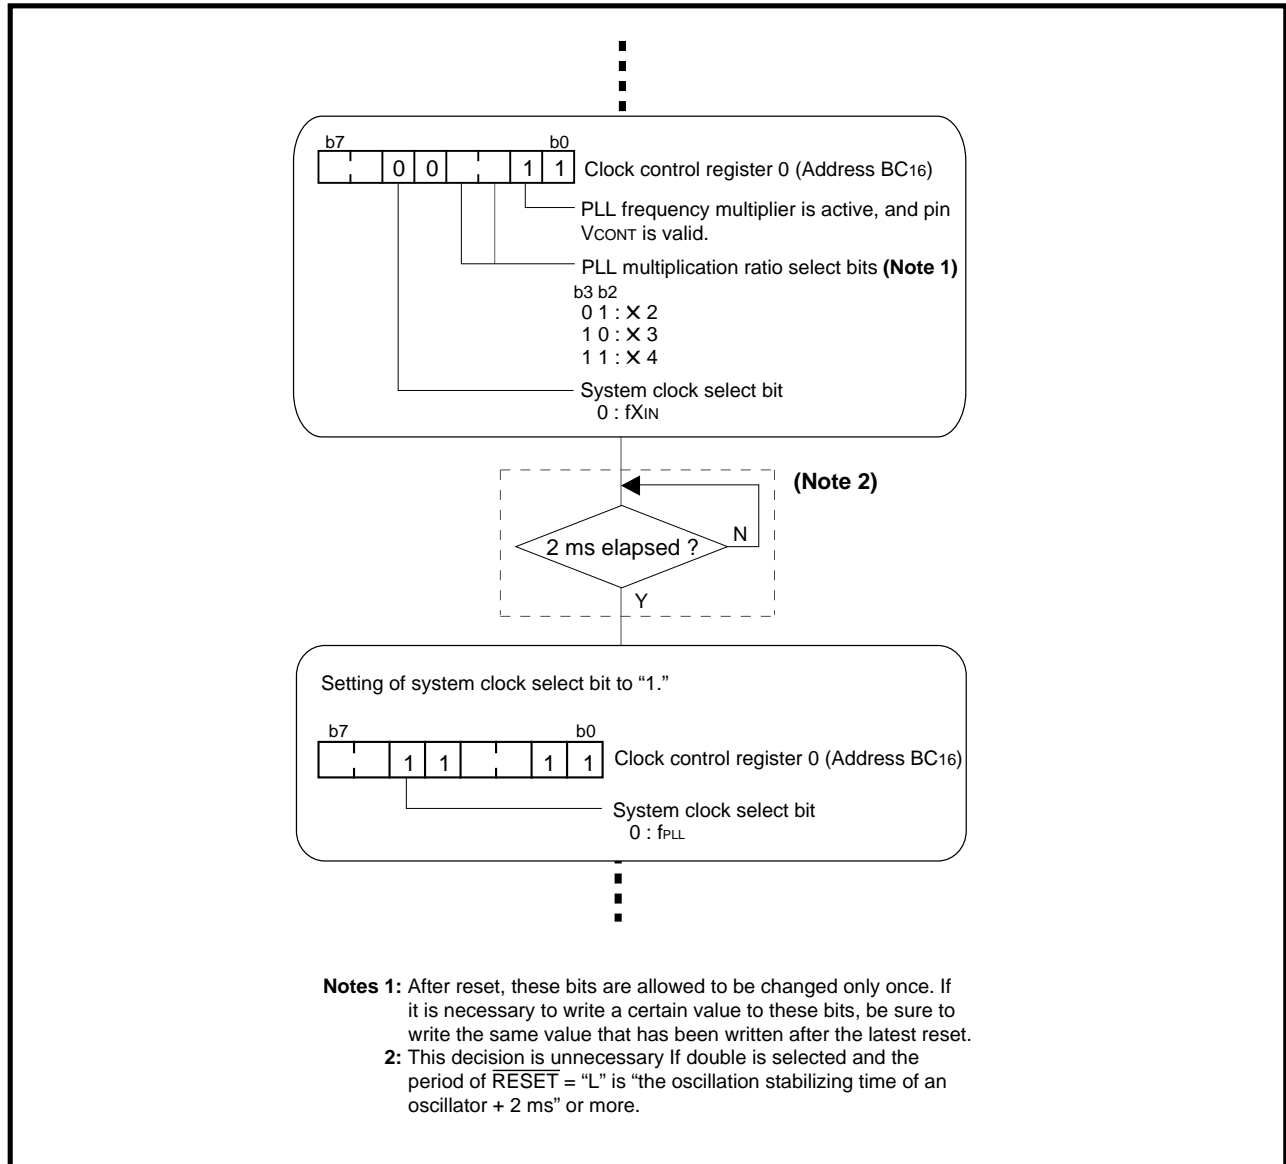

Fig. 4.2.3 Setting procedure for clock control register 0 when using PLL frequency multiplier
Figure 4.2.2 shows the structure of the clock control register 0, and Figure 4.2.3 shows the setting procedure for the clock control register 0 when using the PLL frequency multiplier.
These bits select the multiplication ratio of the PLL frequency multiplier. (See Table 4.2.1.) To rewrite these bits, clear the system clock select bit (bit 5) to "0" simultaneously. Then, set the system clock select bit to "1" 2 ms after the rewriting of this bit. (See Figure 4.2.3.) Note that, after reset, these bits are allowed to be changed only once.
To rewrite the PLL multiplication ratio select bits (bits 2 and 3), clear the system clock select bit to "0" simultaneously. Then, set this bit to "1" 2 ms after the rewriting of the PLL multiplication ratio select bits. (See Figure 4.2.3.)
2. To select  $f_{\text{PLL}}$  as  $f_{\text{sys}}$  after reset, set the system clock select bit (bit 5 at address BC16) to "1" 2 ms after  $f(X_{\text{IN}})$  has been stabilized. (See Figure 4.2.3.)
3. To change the multiplication ratio for the PLL frequency multiplier, clear the system clock select bit (bit 5 at address BC16) to "0" simultaneously. Then, set the system clock select bit to "1" 2 ms after the rewriting of the PLL multiplication ratio select bits (bits 2, 3 at address BC16). (See Figure 4.2.3.)